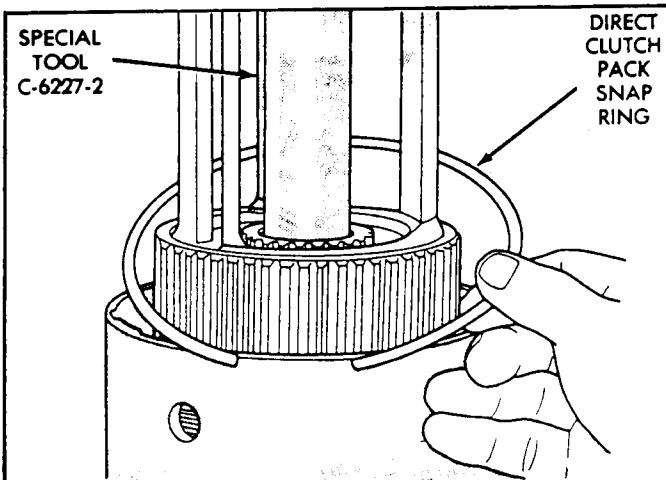

Figure 20
30. Install the direct clutch snap ring, as shown in Figure 20, and "**Ensure**" that snap ring is fully seated in snap ring groove.